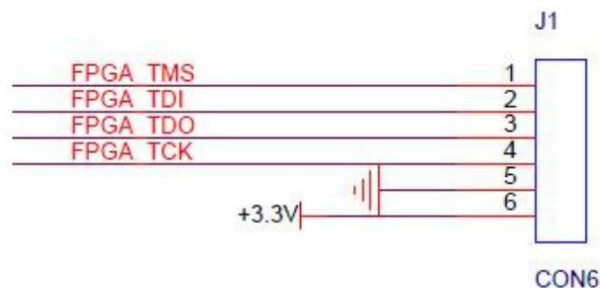

Figure 8-1: JTAG Interface Schematic
- The JTAG test socket J1 is reserved on the AC7200 core board for JTAG download and debugging when the core board is used alone. Figure 8-1 is the schematic part of the JTAG port, which involves TMS, TDI, TDO, TCK, , GND, +3.3V these six signals.